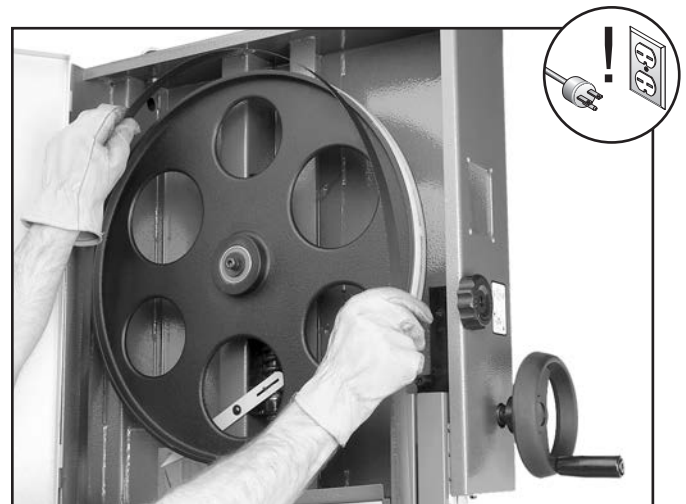

Figure 36. Placing blade on the wheels.
4. Slip the blade through the guides, and mount it on the upper and lower wheels (see **Figure 36**).